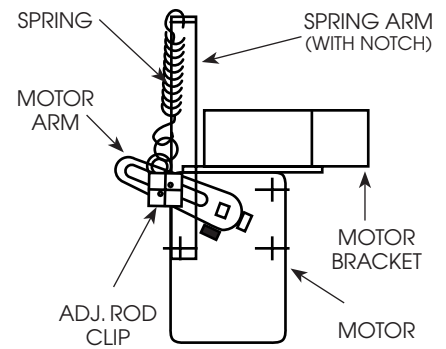

Figure 4 AFTER
2. Install spring arm in position shown in Figure 4.
3. Reinstall original spring in position shown in Figure 4.